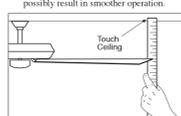

Figure 14
2. Most fan wobble problems are caused when blade levels are unequal. Check this level by selecting a point on the ceiling above the tip of one of the blades. Measure this distance as shown in Figure 14. Rotate the fan until the next blade is positioned for measurement. Repeat for each blade. Measurements should be within 1/8".